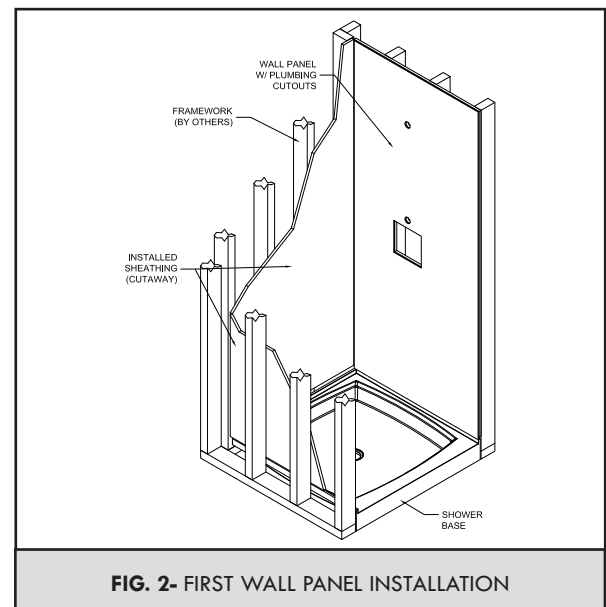

FIG. 2 - FIRST WALL PANEL INSTALLATION
5. Once the side panel is cut, measure and mark the locations for the plumbing outlets. Cut the holes larger than what is required for plumbing outlets. Apply commercial grade urethane adhesive, such as Bostik 1100FS, to drywall and install the panel, making sure to leave a 1/16" gap between the bottom edge of the panel and the top of the shower pan (**SEE FIG. 2**).